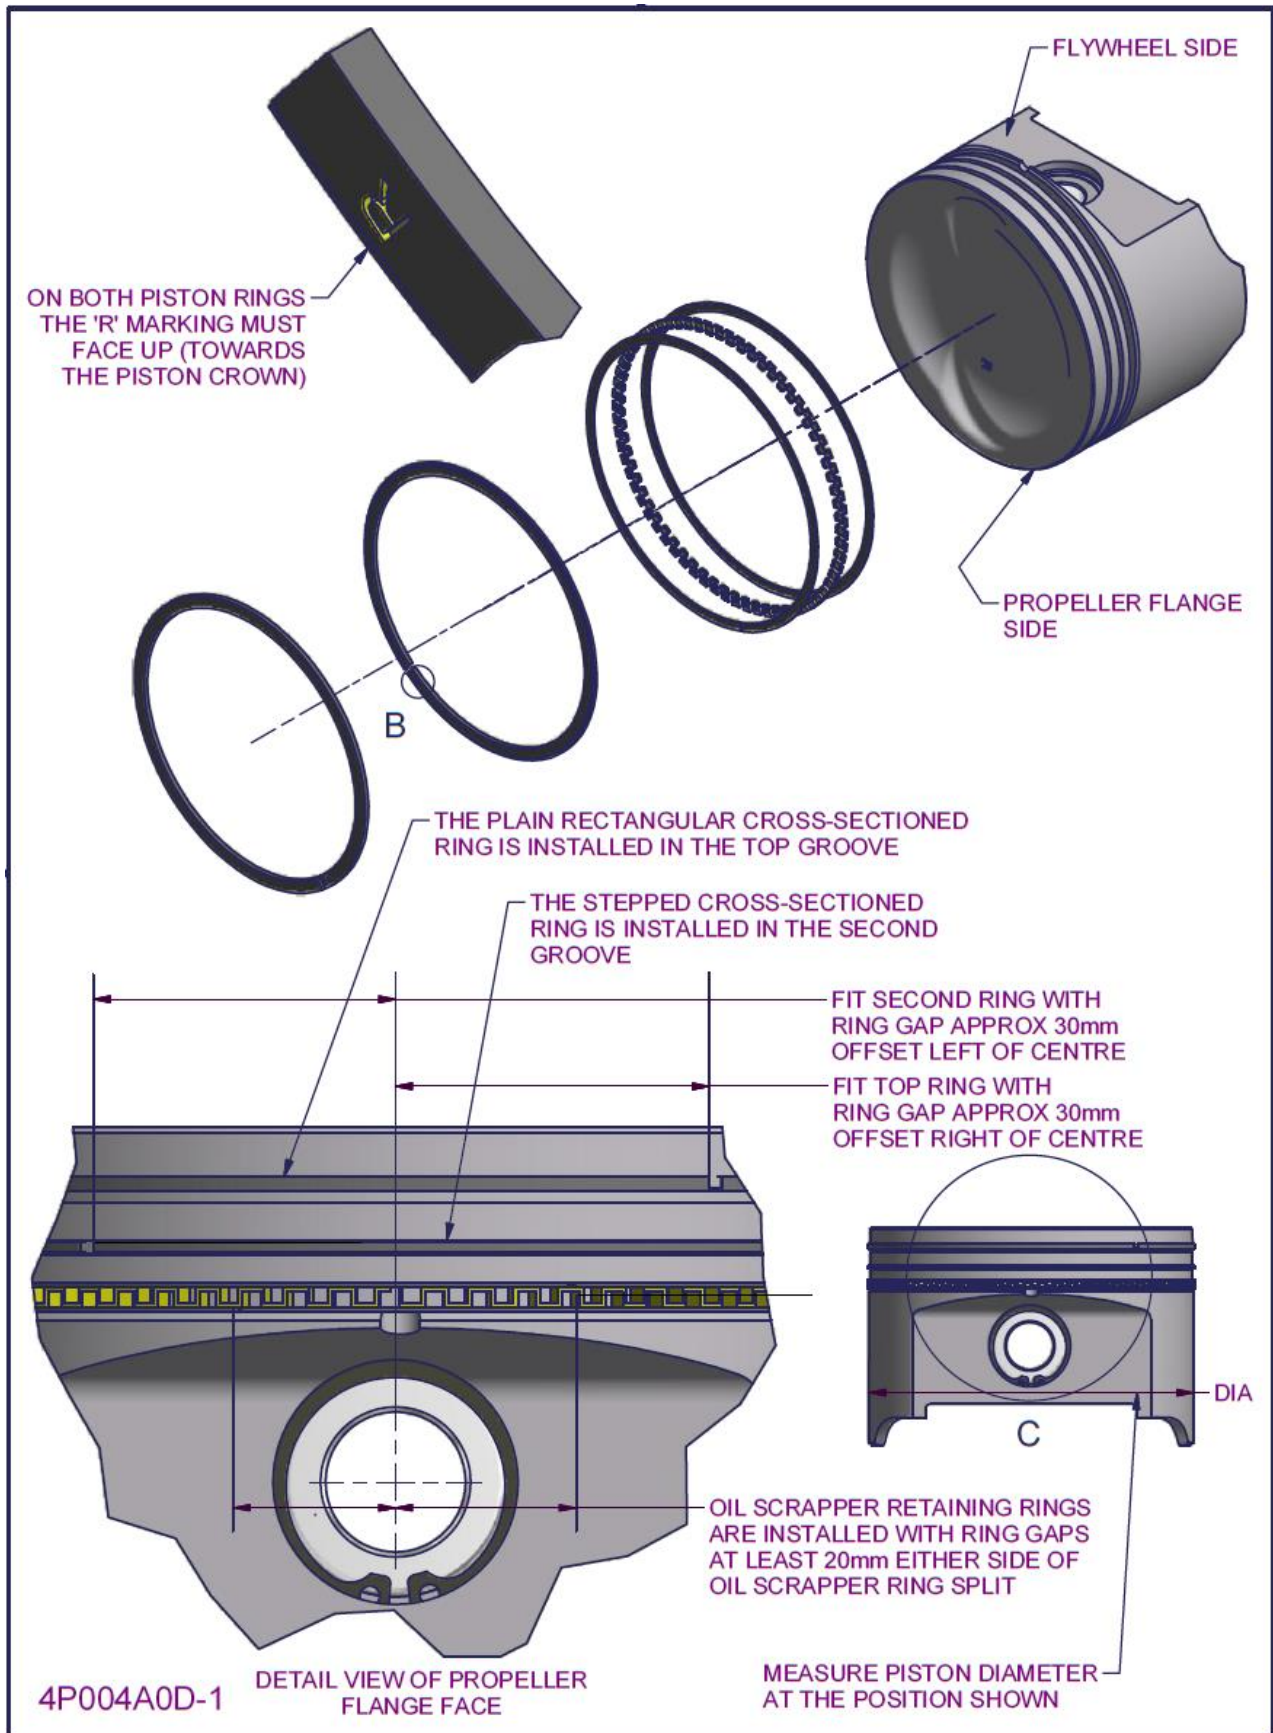

Figure 63 – 2200/3300 cylinder assembly 8
- Take a piston ring set and install the TOP ring (the difference between the TOP and SECOND rings are detailed in Figure 63) into each numbered cylinder barrel using the following action:
- Measure the diameter across the skirt of the piston in the position shown in Figure 63 using a micrometre
- The circlip must be installed with the 'eyes' at the bottom of the piston as shown in Figure 63.